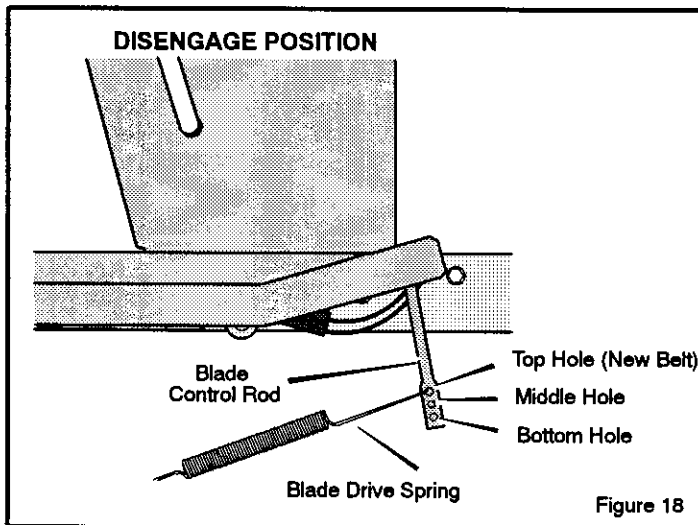

Figure 18
5. Disconnect the **blade drive spring** from the **blade control rod**. Move the **blade drive spring** to the *middle hole* (Figure 18). This will increase the tension on the **mower drive belt**.
12. If you replace the **mower drive belt**, move the **blade drive spring** to the *top hole* (Figure 18).